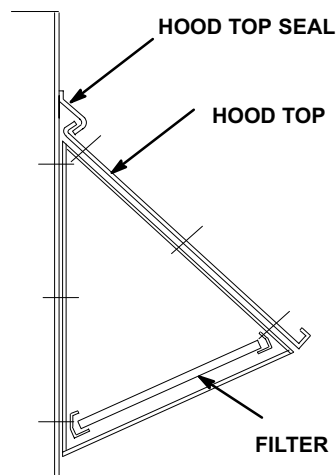

FIGURE 34
LAOD(M)18/24 consists of a set of dampers which may be manually or motor (M) operated to allow up to 25 percent outside air into the system at all times (see figure 34). Both air dampers can be installed in LGA / LHA / LCA units. R for specific installation procedure. Washable filter supplied with the outdoor air dampers can be cleaned with water and a mild detergent. It should be sprayed with Filter Handicoater when dry prior to reinstallation. Filter Handicoater is R.P. Products coating no. 418 and is available as Lennox Part No. P-8-5069.